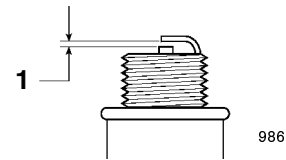

Figure 40
4. Set the gap on the new plug as shown in Figure 40.